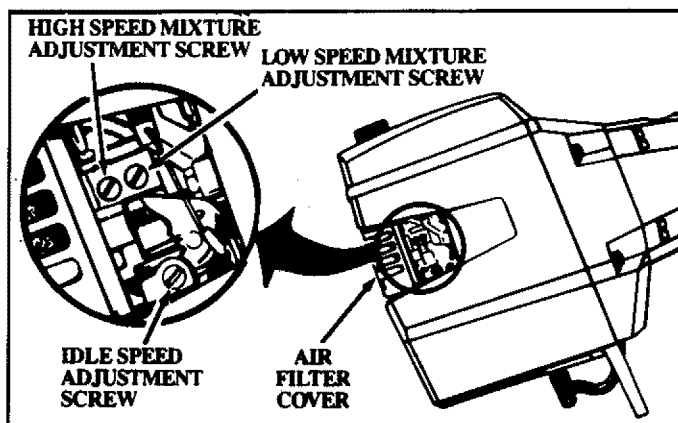

Figure 34
7. Using a clean cloth, wipe the surface of the Flexible Drive Shaft thoroughly to remove any old grease. Figure 34.
- a. Turn the Low Speed Mixture Screw and the High Speed Mixture Screw (Figure 34) clockwise just until they stop. *Do not turn the screws until they are tight as damage to the needle seats can occur.*
- 2.) Adjust Idle Speed Screw (Figure 34) until the engine continues to run without stalling and without the trimmer head moving.
- 2.) Turn the Low Speed Mixture Screw (Figure 34) slowly clockwise until the speed starts to drop. Note this position.
- 3.) Turn High Speed Mixture Screw (Figure 34) very slowly clockwise until engine speed is reduced.